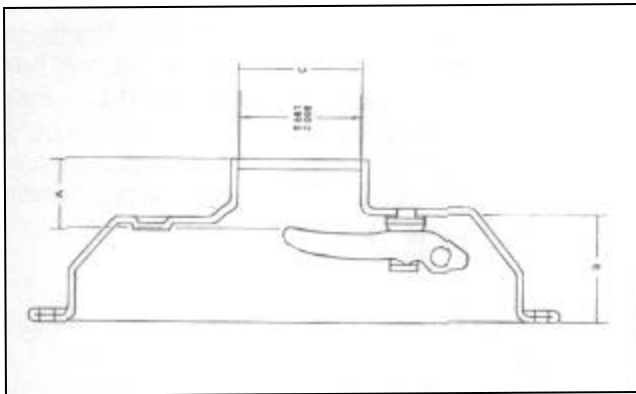

FIGURE 6
3. Using a machinists combination square or depth micrometer, measure the distance from clutch throwout bearing contacting surface of lowest finger to top of cover hub (A) as shown in Figure 6. On a clutch in good condition, the distance should be 1- 1/4" to 1- 1/2" when the interposed driving plate is .200" to .213" and the gaskets are .028" to .032" uncompressed thickness.
Distance from front face of cover where it contacts the flywheel gasket, to points on front wall of cover where retainer sealing washers fit (B) Figure 6, should not be less than 2.350" and not more than 2.370" measured 1/8" from edge of each of the 3-finger retainer holes. Variation in distance at any of the 3 holes should not exceed .008". Covers that are not within these limits should be replaced unless equipment and skill is available for doing an accurate job of straightening.